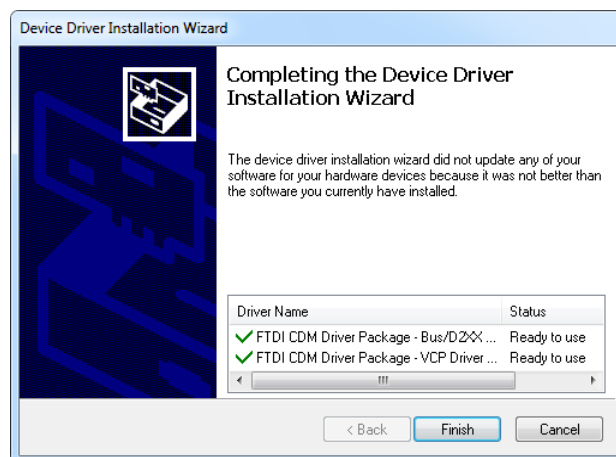

Fig. 5-8 Finishing the installation
5. After installation, the final setup page indicates whether the driver files were properly installed (Fig. 5-8), click **Finish**.